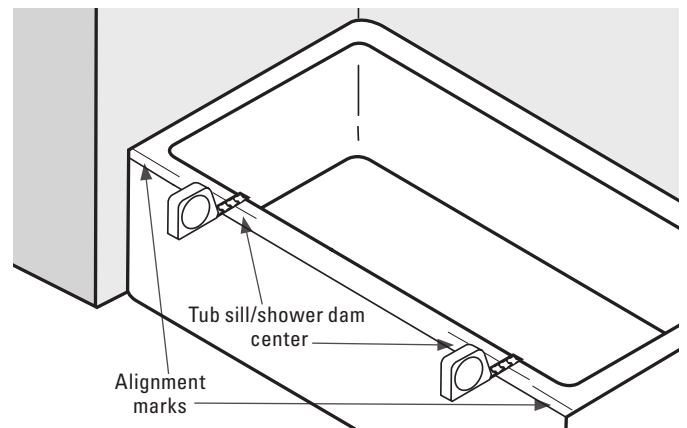

Figure 2
B. Using the tape measure, find the center of the tub sill/shower dam (See **Figure 2**). Make a mark where the center is, and add 1" to this mark. Place a new mark on the front of tub sill/shower dam on both the right and left sides.
E. Locate the Panel Glide Strip (See **Figure 2**). Using the wire cutters, cut it 3/4" shorter than the Curb. Re-install the Panel Glide Strip into the Curb so that the ends of Panel Glide Strip are evenly spaced at each end of the Curb.